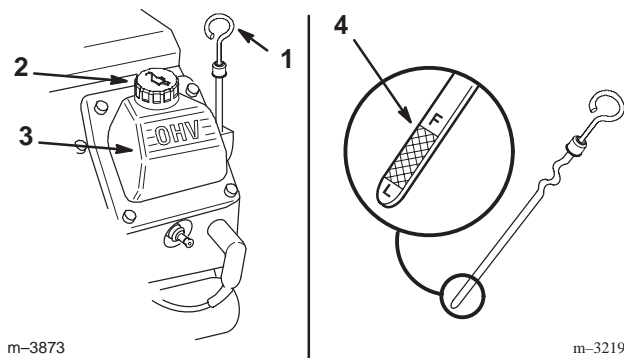

Figure 6
3. Clean around the oil dipstick (Fig. 6).
4. Pull out the dipstick and wipe the metal end clean (Fig. 6).
5. Slide the dipstick fully into the dipstick tube (Fig. 6).
7. If the oil level is low, clean around the oil filler cap and remove the cap (Fig. 6).